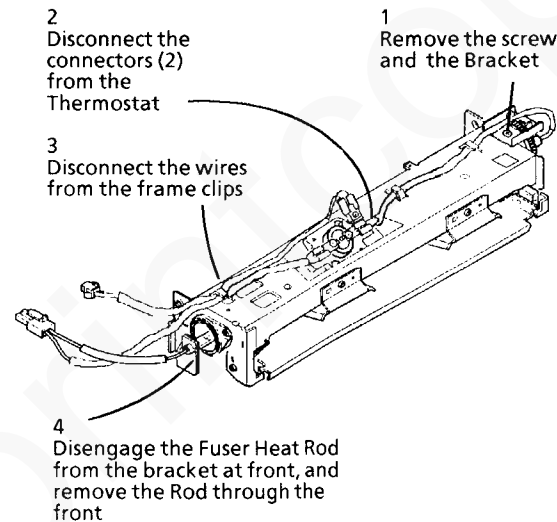

Figure 1. Removing the Fuser Heat Rod
4. Remove the Fuser Heat Rod (Figure 1).